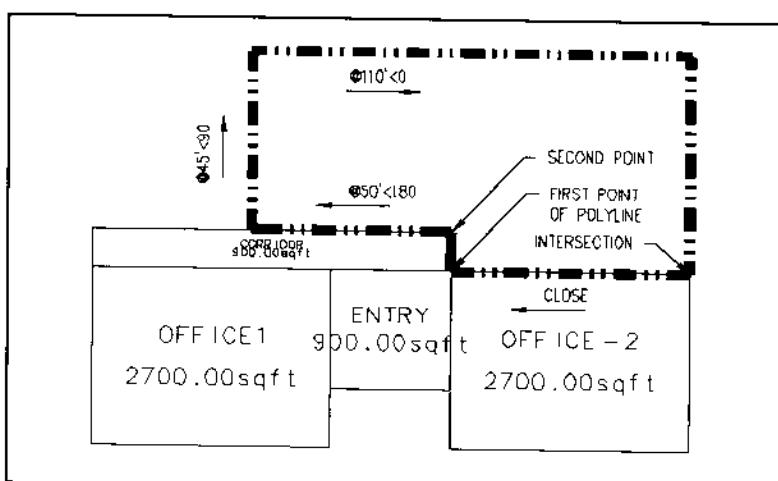

Figure 29.
2. The Custom routine uses the Pline command with the linetype DASH2L to draw an initial outline. The pline temporarily created by this routine is shown in Figure 29.
- > Arc/Close/Halfwidth/Length/Undo/Width/<Endpoint of line>: INT of [pick upper right corner of the CORRIDOR area as the second point; a wide polyline begins to appear as shown in Figure 29]